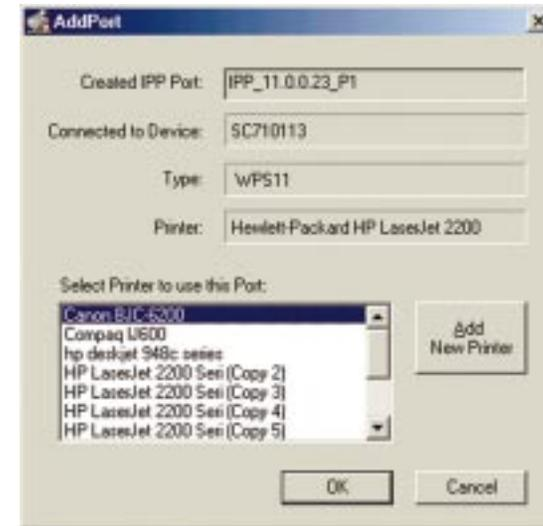

Figure 8-2
4. Click **Save** to create the IPP port on your system. You will see a message confirming that the port has been created, then Figure 8-2: